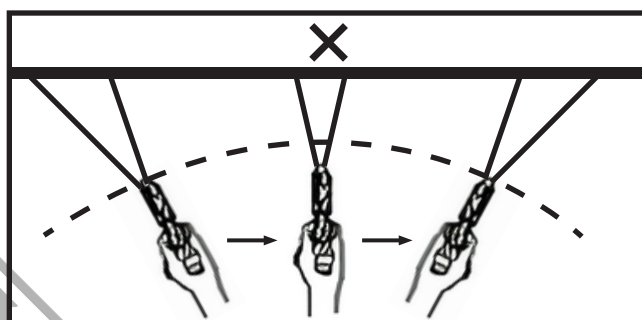

Fig. 2
- Avoid arcing (fig. 2) or holding the gun at an angle (fig. 3).